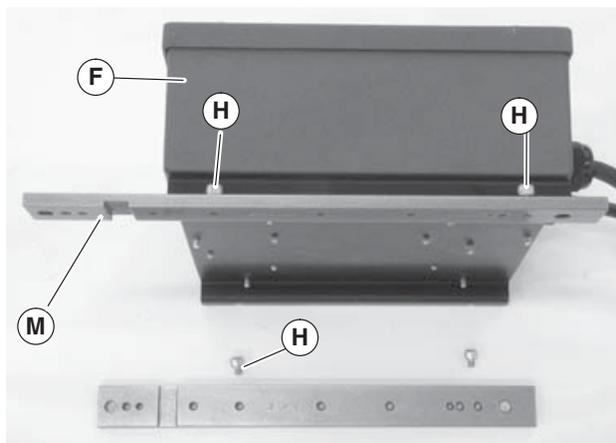

Figure 11
2. Attach mounting bars (Figure 11, item M) to controller (F) with screws (H).